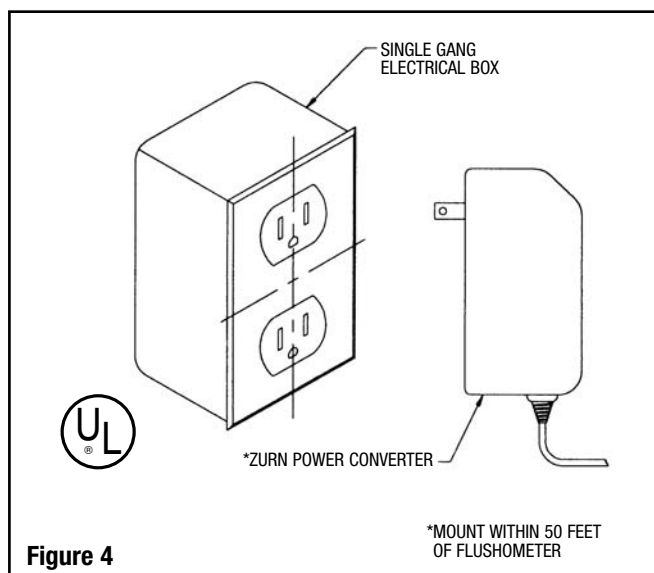

Figure 4
STEP 1 – Install Receptacle (Figure 4)